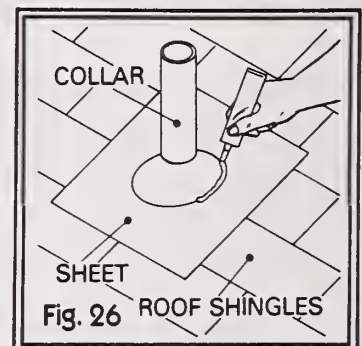

Fig. 26
2. If the leaks occur at the joint between the collar and the flat surface, seal the metal with aluminized caulking compound (fig. 26).